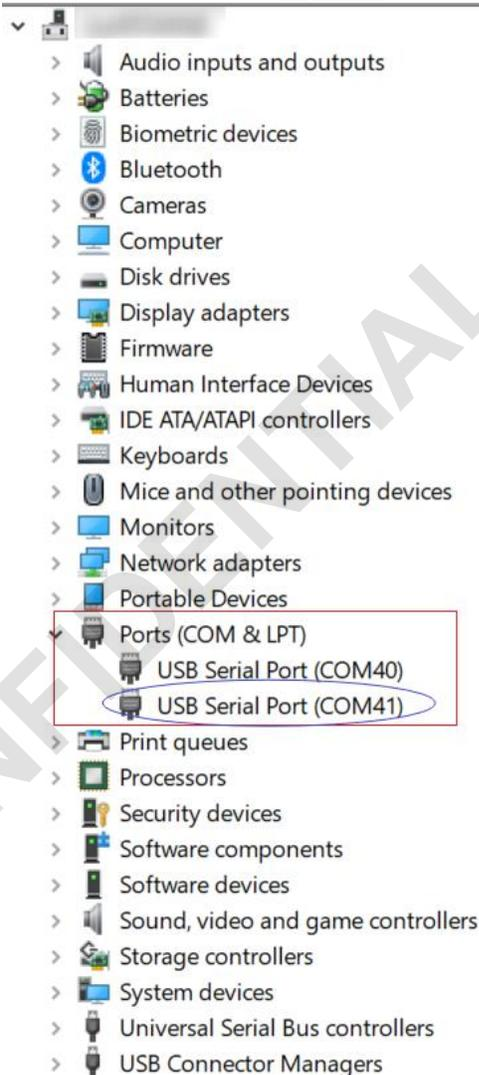

Figure 3 - New COM Ports from the Interface Board
- Figure 3 - New COM Ports from the Interface Board
- Plug the other end of the USB cable into the Windows computer, Windows will install FTDI usb-to-serial driver automatically. After the driver is installed, the device shows as a COM port in the Windows Device Manager as Figure 3.